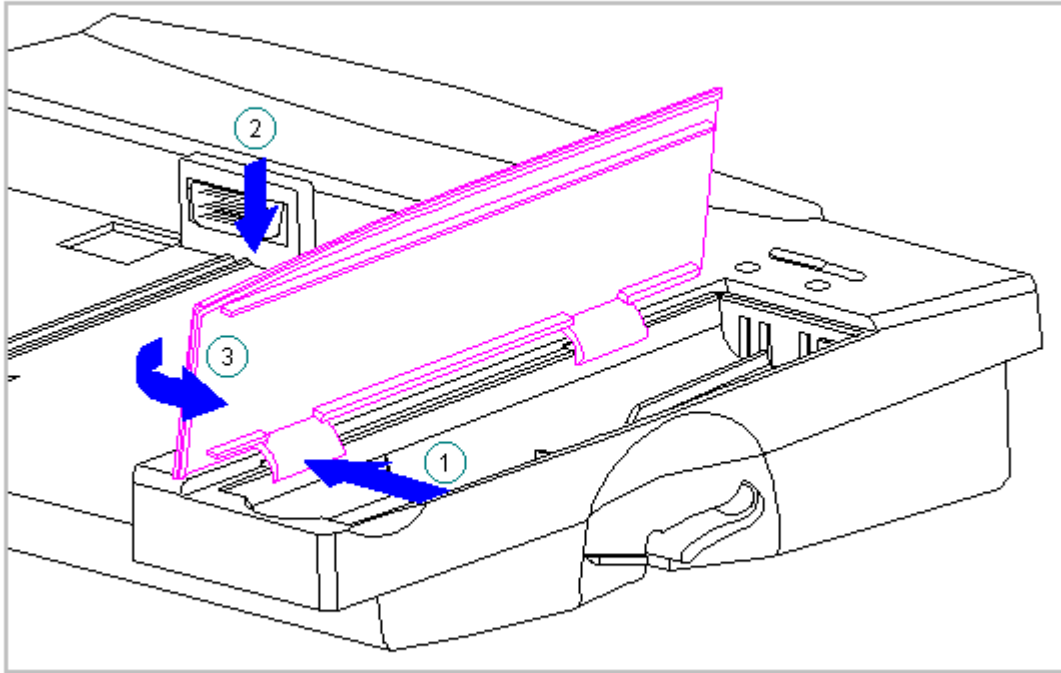

Figure 3-193. Unhinging the Battery Door from the Docking Base (All Models)
2. Hold the door upright, applying pressure to the door at the base of the front hinge [1]. This creates a pivot point [2] to rotate the door out of the base (Figure 3-193).
3. Flex the front end of the door until the retaining pin [3] clears the hinge slot on the docking base (Figure 3-193).